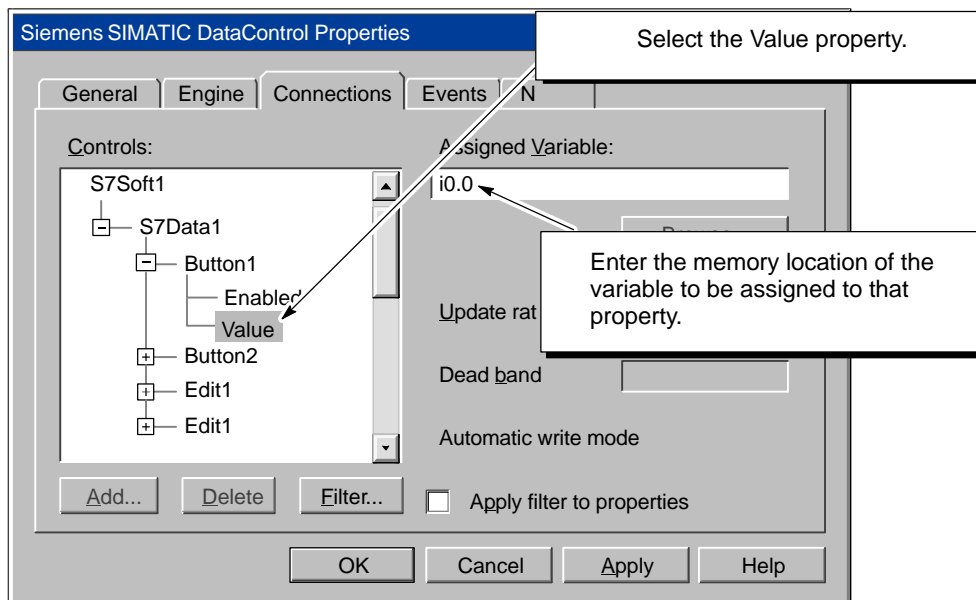

Figure 1-9 Assigning a Variable in the Control Engine to a Property in a Control
7. As shown in Figure 1-9, select the Value property of the control.